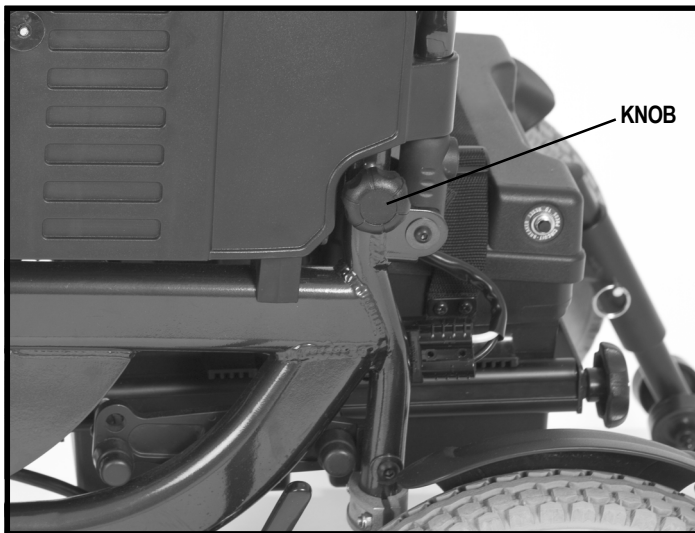

Figure 18. Seatback Installation
11. Secure the seatback to the seat base assembly by tightening the knob on each side of the chair. See figure 18.